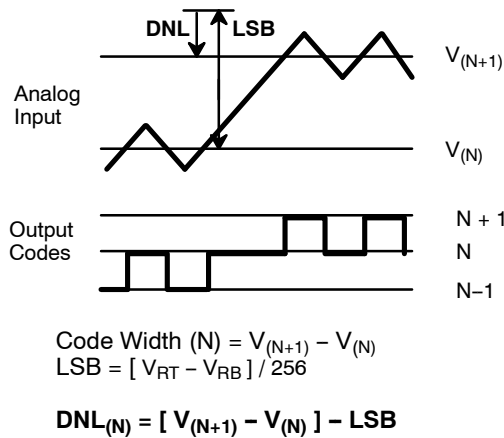
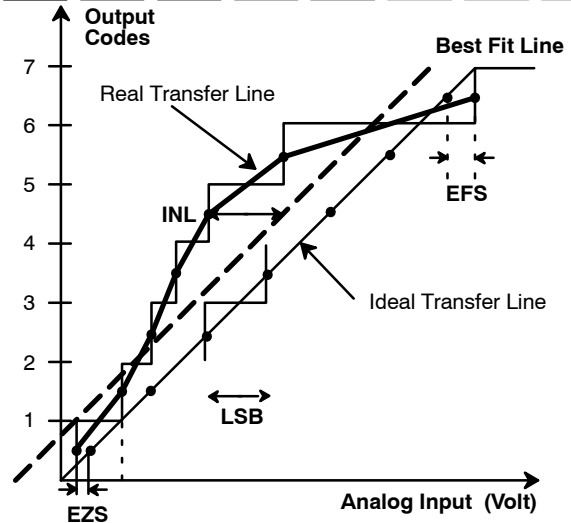

Figure 2. DNL Measurement
Figure 3. INL Error Calculation
- 1 Tester measures code transitions by dithering the voltage of the analog input ( $V_{IN}$ ). The difference between the measured and the ideal code width ( $V_{REF}/256$ ) is the DNL error (Figure 2.). The INL error is the maximum distance (in LSBs) from the best fit line to any transition voltage (Figure 3.). Accuracy is a function of the sampling rate (FS).